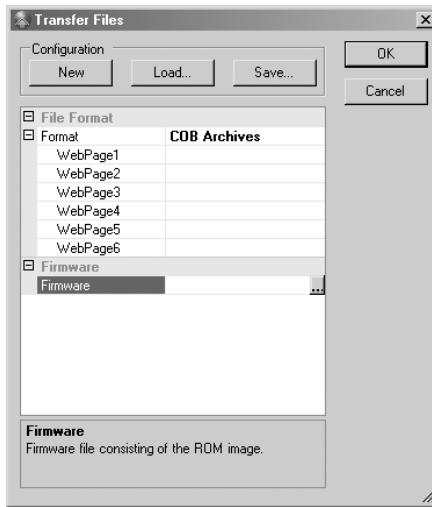

Figure 28: Transfer Files Dialog Box
3. Select the desired unit and click the **Upgrade** icon or select **Files** from the Device menu. The Transfer Files dialog box displays (Figure 28).